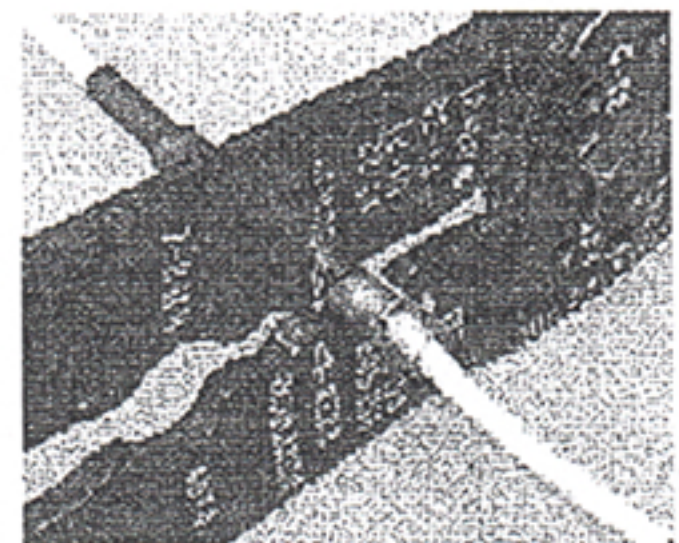

Figure 4.
9. Install the connector to the blue wire and the blue wire from the new disconnect and crimp the connector tightly. See Figure 4